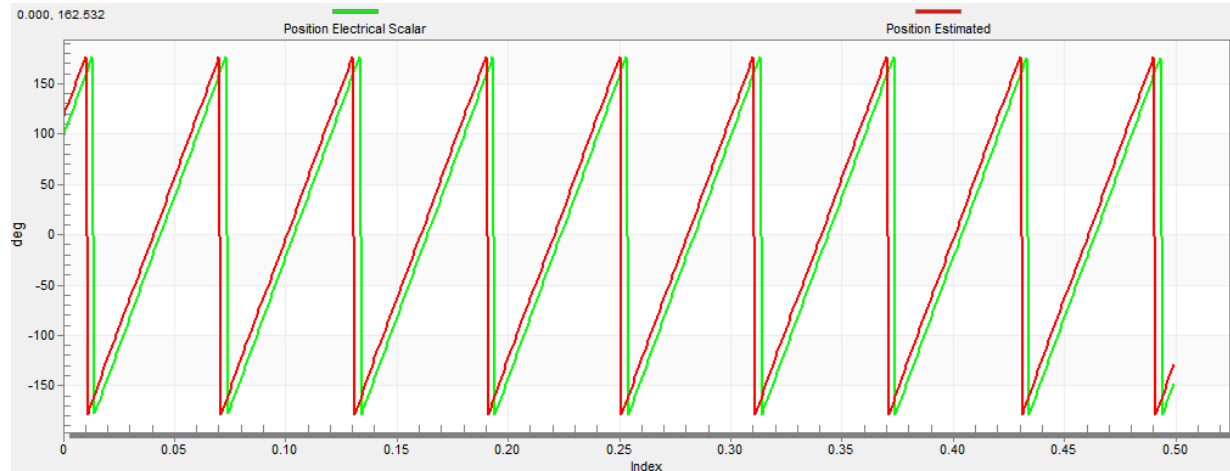

Figure 24. Generated and estimated positions
6. Select the “Position” recorder to check the observer functionality. The difference between the “Position Electrical Scalar” and the “Position Estimated” should be minimal (see Figure 24) for the Back-EMF position and speed observer to work properly. The position difference depends on the motor load. The higher the load, the bigger the difference between the positions due to the load angle.